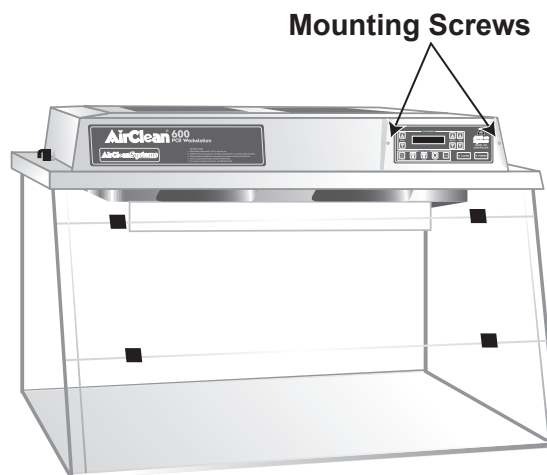

Figure 10, Removing the UVTest™ controller from the AC648 model.
2. Remove two mounting screws from the front of the controller and slide the control module forward until you can access the two connectors on the rear of the module. See figure 10.